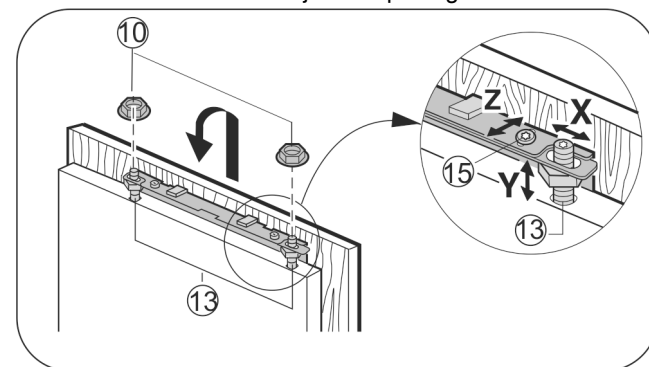

Fig. 27
- ▶ Attach the unit door to the adjusting bolts Fig. 27 (13) and loosely screw the locknuts Fig. 27 (10) onto them.
- ▶ To align the door vertically Y and in the lateral inclination: adjust adjusting bolts Fig. 27 (13) with a screwdriver.
- ▶ Tighten locknuts Fig. 27 (10).